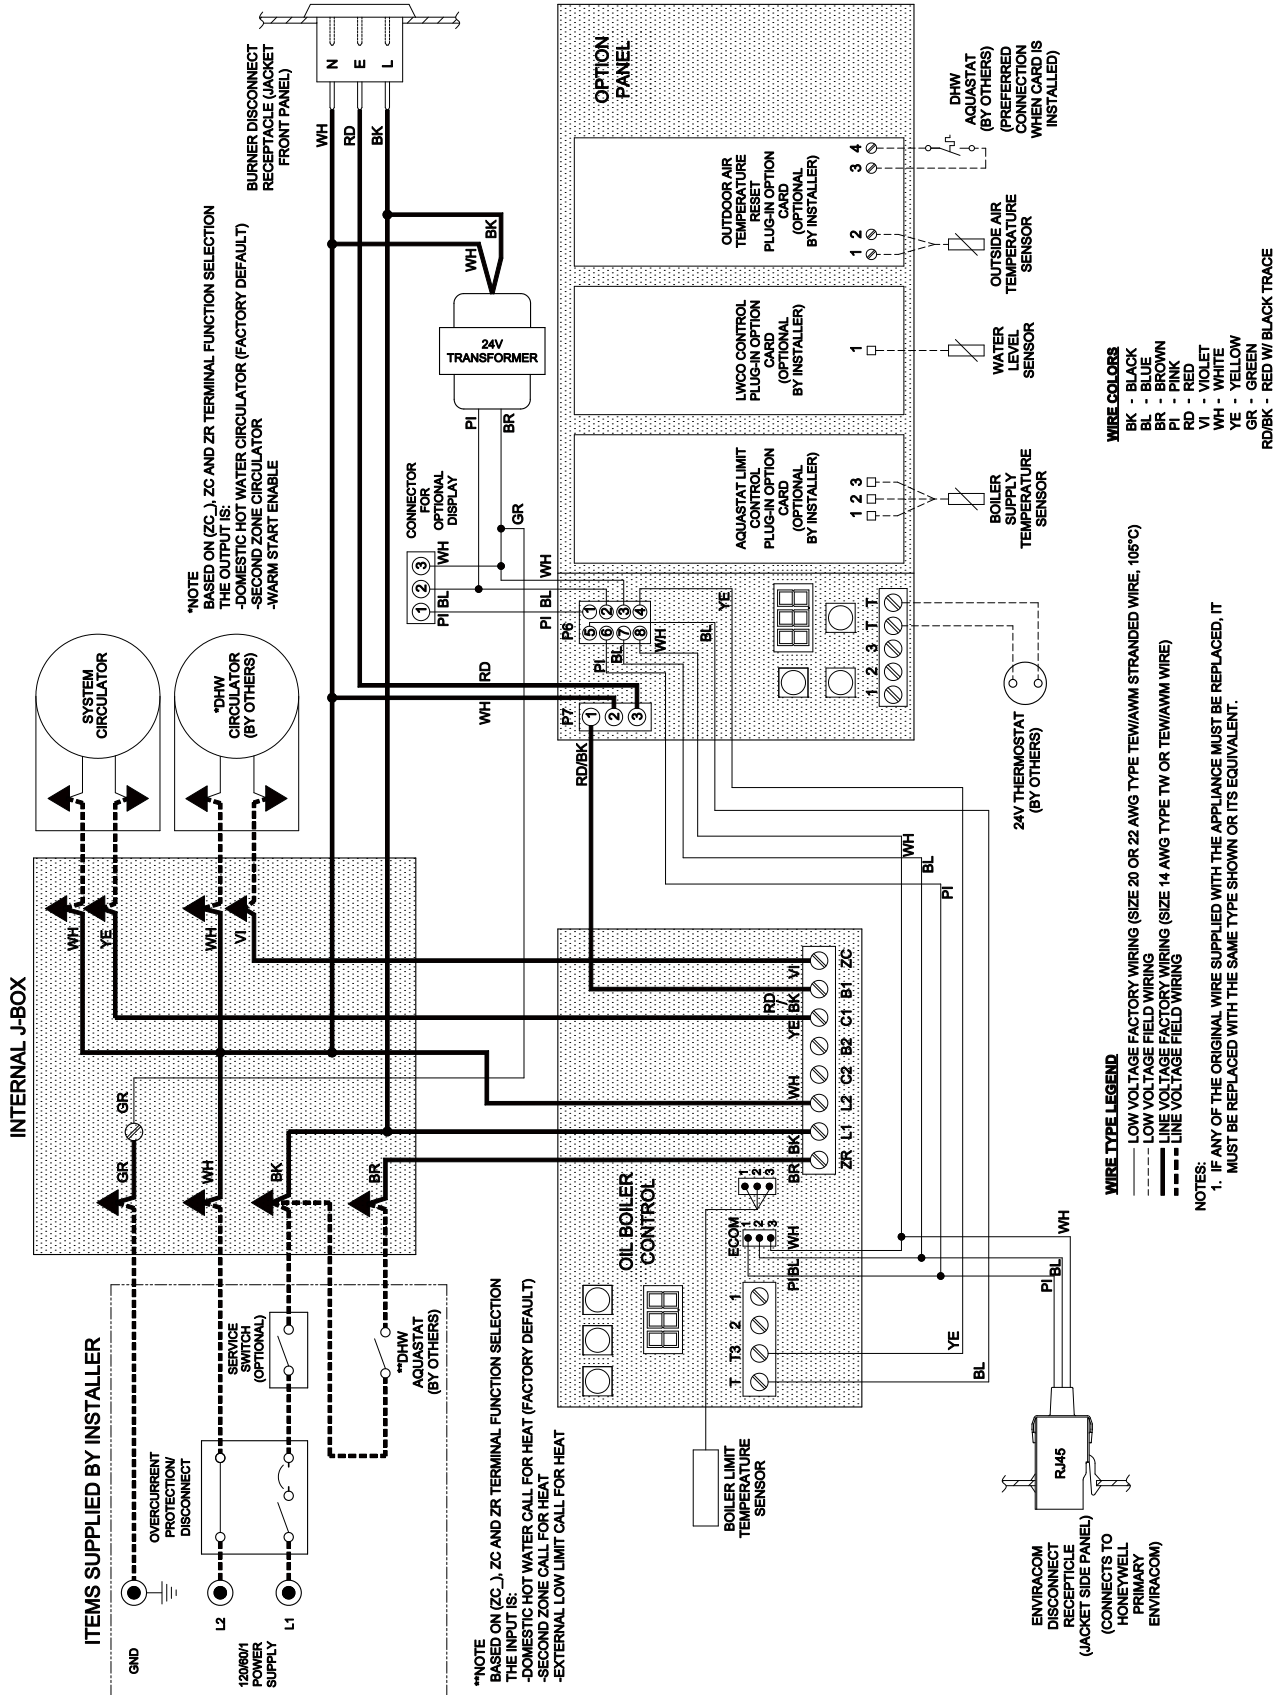

Figure 26 Schematic Wiring Diagram
5. Use armored cable (BX) over all exposed line voltage wiring.
6. Wiring should conform to Figures 26 thru 27.